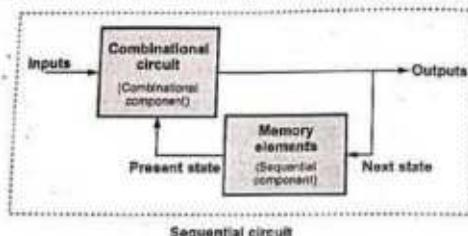

Fig. 5.1.1 Block diagram of sequential circuit / FSM
- Fig. 5.1.1 shows the block diagram of sequential circuit/Finite State Machine (FSM).